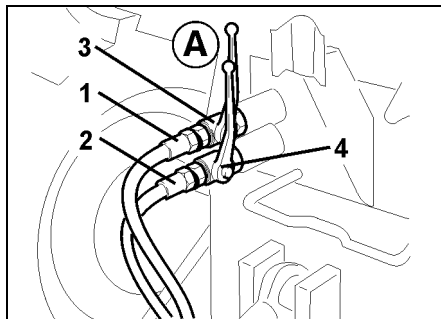

Fig. 19
- Connect the hydraulic hoses (Fig. 19/1 and Fig. 19/2) of the hydraulic single shutter control each to a single acting spool valve of the tractor.